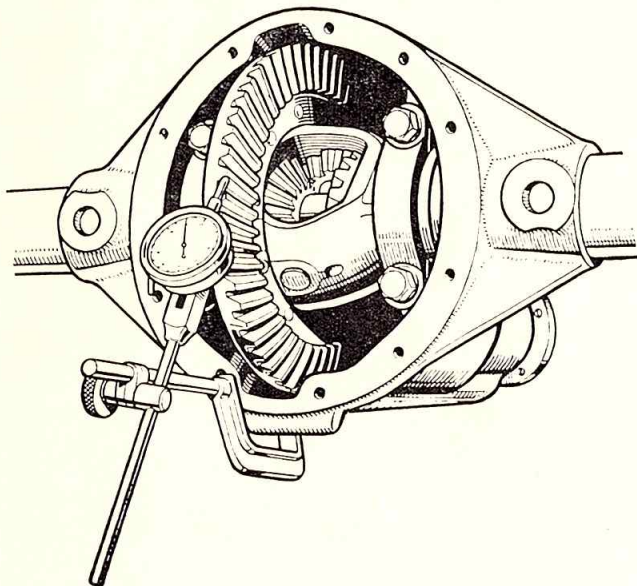

Fig. 17. Checking backlash between gears.
- (1) Place the differential assembly with bearing cups, and less shims, in the housing, being sure that the bearing cones, cups and housing are perfectly clean.
- (2) Install a dial indicator on the housing with the button on the back face of the drive gear as shown in Fig. 17.
- (10) Mount a dial indicator on the gear carrier housing with the button against the back face in a similar manner to that employed for differential bearing adjustment, as shown in Fig. 17. Turn the pinion by hand and check the run out on the back face, which should not exceed .005" (.13 mm.). If there is excessive run out, strip the assembly and rectify by cleaning the surfaces locating the drive gear. Any burrs on these surfaces should be removed.
- (11) Remount the dial indicator on the gear carrier housing with the button against one of the drive gear teeth, as nearly in line with the direction of tooth travel as possible (see Fig. 17). Move the drive gear by hand to check the backlash which should be as etched on the gear. If the backlash is not in accordance with the specification, transfer the necessary shims from one side of the differential case to the other to obtain the desired setting. To increase backlash, remove shims from the drive gear side of the differential and install on the